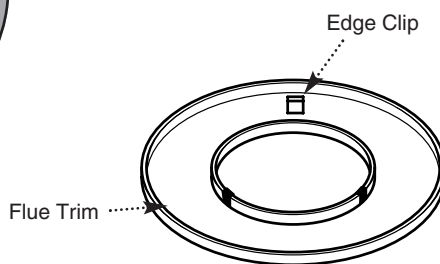

Fig. 59a
b) Take the three edge clips from the kit and fit them equi-spaced onto the inner flange of the trim (Fig. 59a).